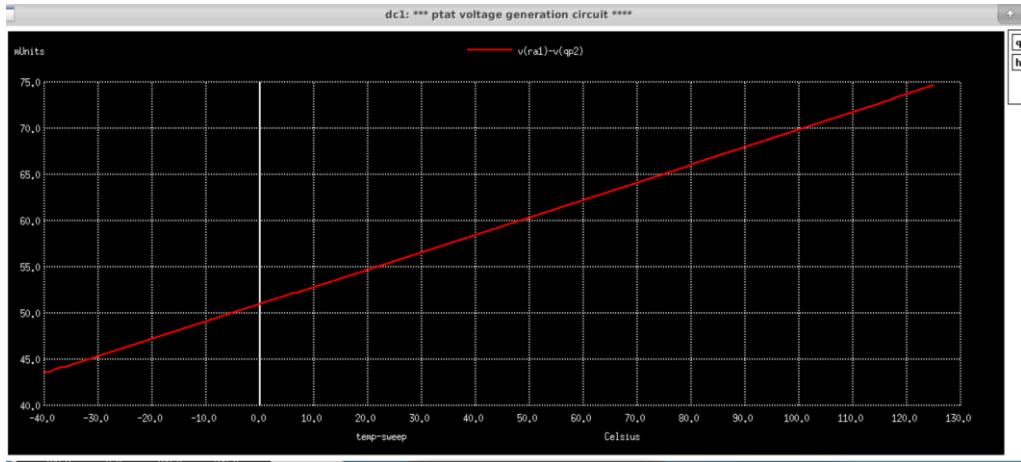

Fig13. Difference between ra1 and qp2 voltages
- In fig 12u can see that qp2 has more negative slope than ra1. So, if we observe the difference in fig13 we can observe that slope is positively increasing.